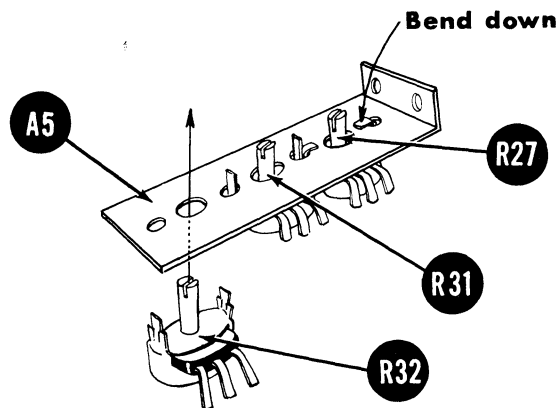

Fig. 1
- (✓) Fig. 1. Mount the 10KΩ AC BAL. potentiometer, R27, on potentiometer mounting bracket, A5. Bend tabs in towards the shaft as shown.
- (✓) Fig. 1. Likewise, mount the 2KΩ DC CAL. potentiometer, R31.
- (✓) Fig. 1. In a similar manner, mount the 2KΩ AC CAL. potentiometer, R32.